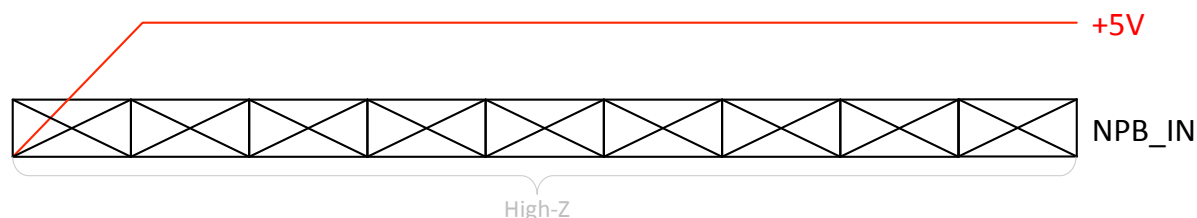

Figure 22 Normal ON
- When 5V comes up, the onboard power controller will activate the supplies automatically. There is no need to toggle NPB_IN in this case. NPB_IN should remain floating (a pullup resistor is included in the Stream810; do not overrule externally). See *Figure 22*.